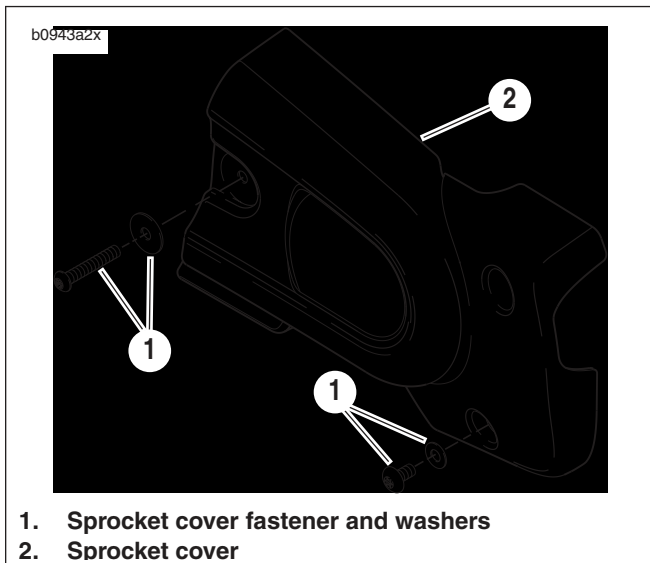
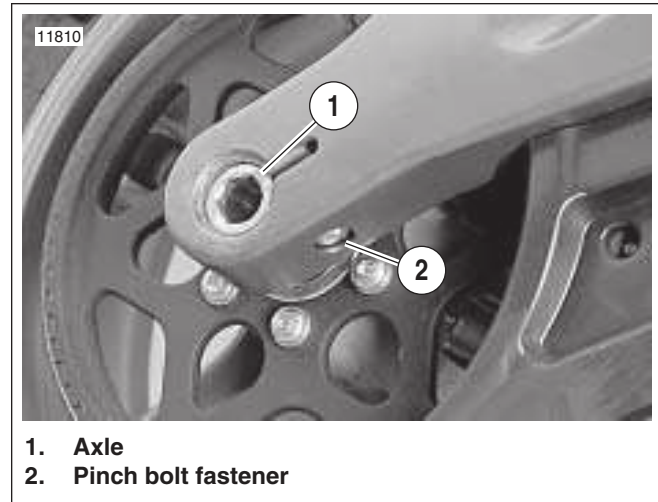

Figure 6-40. Sprocket Cover
Figure 6-41. Rear Wheel Mounting, Right Side
4. See Figure 6-40. Remove sprocket cover. See 2.30.
5. See Figure 6-41. Loosen rear axle pinch fastener (2).
6. Loosen rear axle (1) approximately 15 rotations to allow partial tension to be removed from rear drive system.
5. See Figure 6-41. Tighten rear axle (1) to 23-27 ft-lbs (31.2-36.6 Nm), back off two full turns and then retighten to 48-52 ft-lbs (65.1-70.5 Nm).
6. Tighten rear axle pinch fastener (2) to 40-45 ft-lbs (54-61 Nm).
7. See Figure 6-40. Install front sprocket cover. See 2.30 SPROCKET COVER.